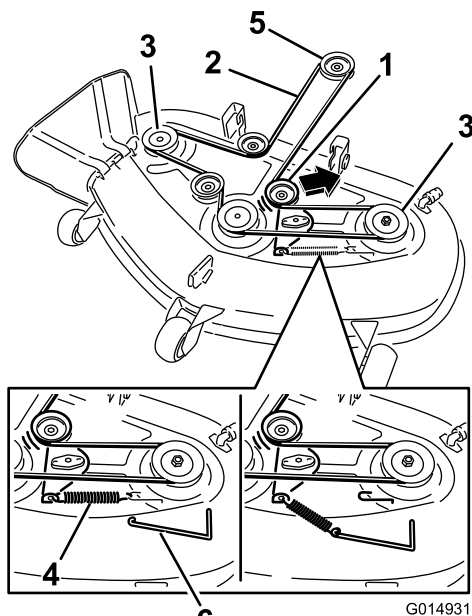

Figure 57
4. Using a spring removal tool, (Toro part no. 92-5771), remove the idler spring from the deck hook to remove tension on the idler pulley and roll the belt off of the pulleys (Figure 57).
5. Route the new belt around the engine pulley and mower pulleys (Figure 57).
6. Using a spring removal tool, (Toro part no. 92-5771), install the idler spring over the deck hook and placing tension on the idler pulley and mower belt (Figure 57).